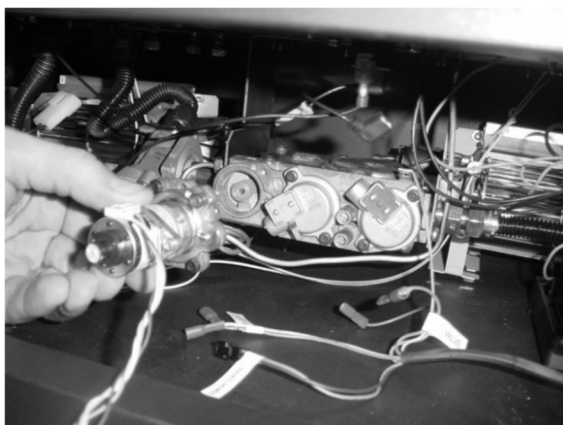

Figure 1
- (b) Remove and discard the Natural Gas (NG) orifice. Place the LP orifice in the pilot assembly then replace the pilot hood, tightening the pilot hood until it is snug (do not over-tighten).
1. Remove the control panel to access the gas control panel. The stepper motor (adjustable regulator) has an installation sheet included with it – make sure to follow all of the directions. Place the stepper motor on the gas control valve (see Figure 1) – **MAKE SURE IT IS CORRECTLY ORIENTED**. Secure using the screws included with the motor (see Figure 2) – tighten to 25 Lb-inches. Leak test this area after installation to verify proper installation.